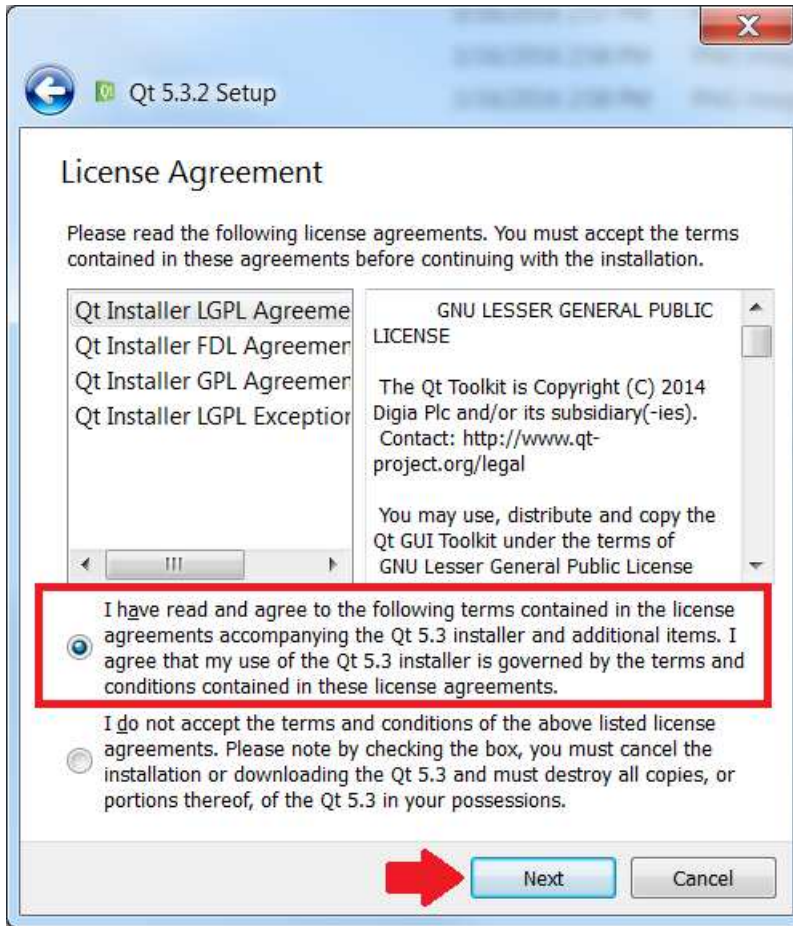

Figure 6. Qt License Agreement
- As shown in Figure 6, read and accept the license agreement and click “Next.”